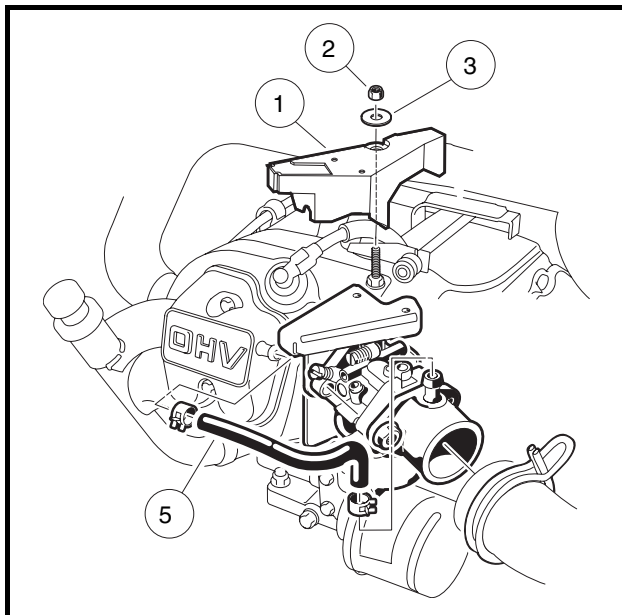

Figure 12-25 Governor Guard Removal
4. Remove the governor guard (1) (Figure 12-25, Page 12-25).
19. Place the governor guard (1) onto the throttle bracket and the 2-ended bolt. Install the two Torx screws (4) through the governor guard into the throttle bracket and tighten to 15 in-lb (1.7 N·m). Place the 3/8 flat washer (3) onto the 2-ended bolt and secure with nylon lock nut (2). Tighten the nut to 50 in-lb (5.7 N·m) (**Figure 12-25, Page 12-25**).